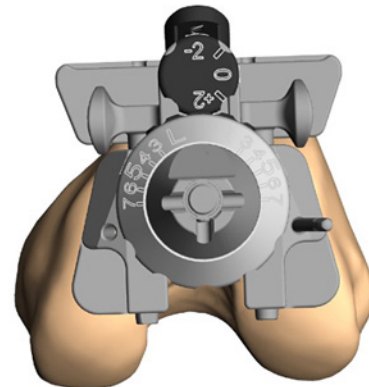

Figure 7
4. Orient rotation of the assembly neutral to the posterior condyles (Figure 7) insert a headed or non-headed 65mm SPEED PIN into one or both of the oblique pin holes.